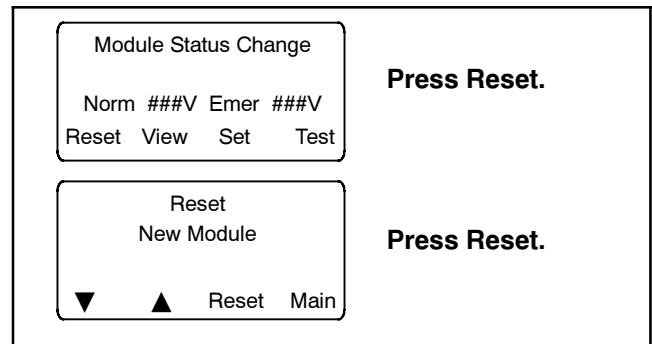

Figure 2-15 Screens after Module Connection
1. If the ATS display shows Module Status Change, press the Reset button. See Figure 2-15.
8. Close the enclosure door and reconnect power to the ATS. The display will show Module Status Change. See Figure 2-15.